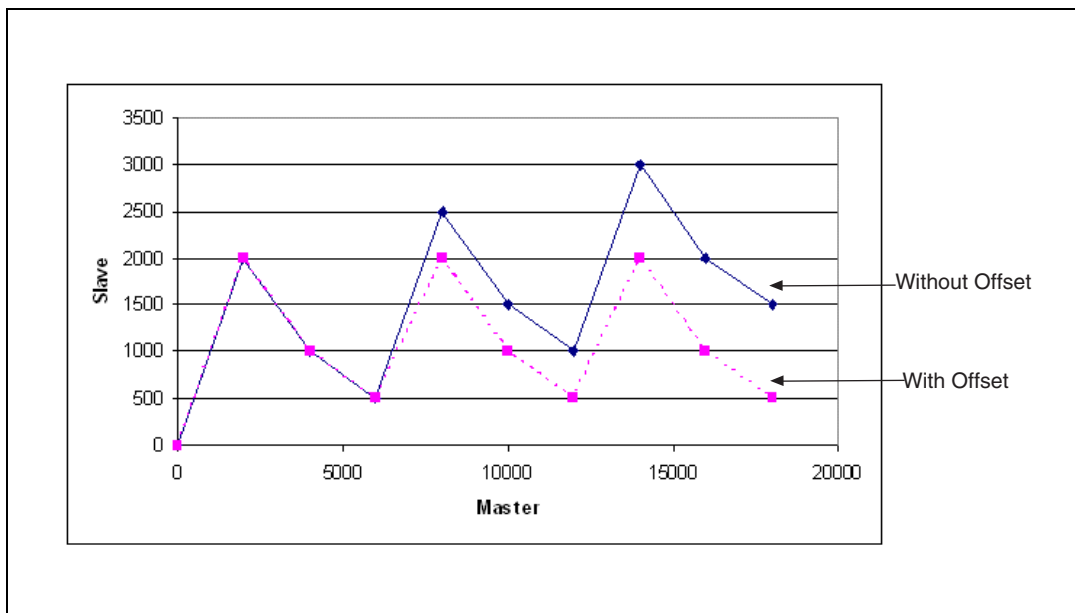

Figure 10-15. Camming without Offset
Figure 10-15 shows that, after three camming cycles, the slave axis end position is 500 counts away from the starting position (0) with the slave offset, and that without the slave offset, the slave axis end position is 1500 counts away from the starting position (0).